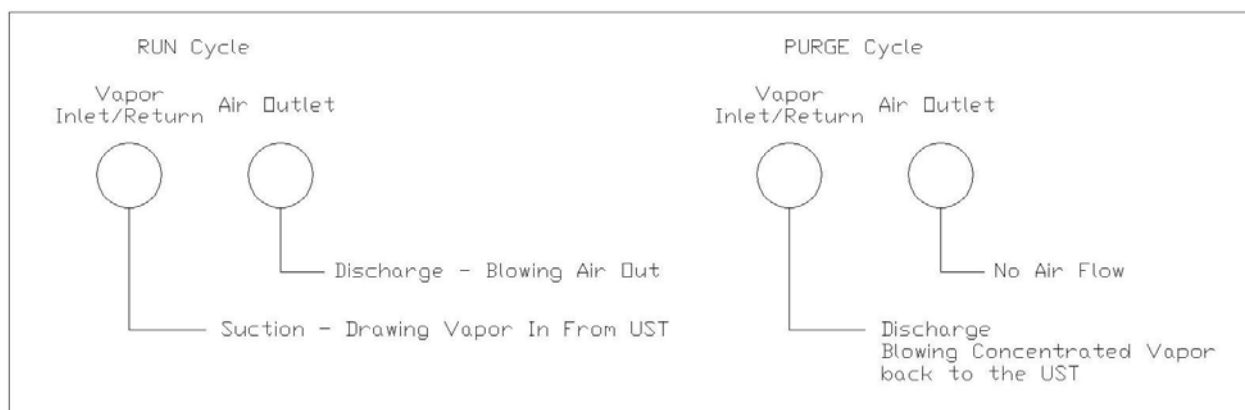

Figure 33: *Green Machine* Operation Diagram
2. During the 60-second RUN mode: **(See Figure 33)**
3. During the 60-second PURGE cycle: **(See Figure 33)**